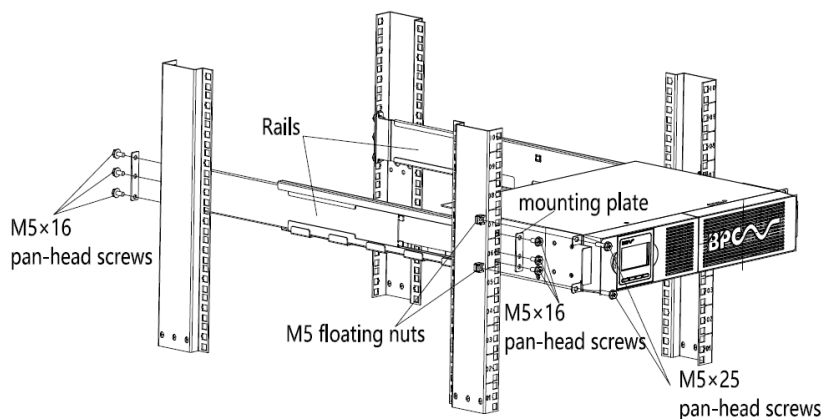

Figure 3.1 Securing the rails to the rack
- a. Assemble the left and right rails to the rear rails as shown in Figure 3.1. Do not tighten the screws.